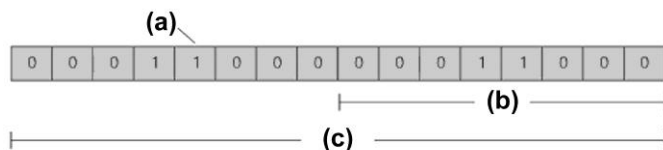

Figure 2-14 Data types for question 49.
- 49. Identify data types (a) __, (b) __, and (c) __ shown in Figure 2-14. 49a. _____
51. *Discrete* means that each input or output has two states: true (ON) or false (OFF). (True or False) 51._____